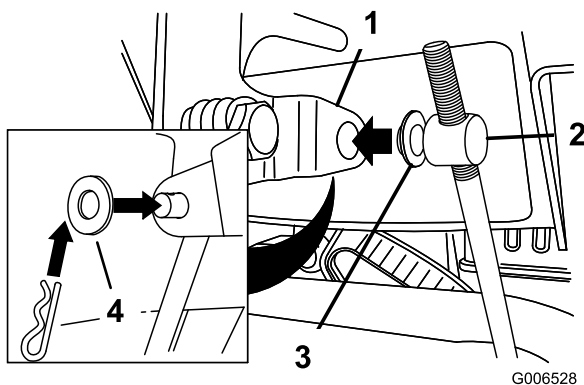

Figure 5
3. Place a flat washer on the trunnion (Figure 5).
6. Pull up on the speed control rod and insert the trunnion into the hole in the speed selector lever (Figure 5).
- B. Disconnect the trunnion from the speed selector lever (Figure 5).
- C. Turn the trunnion downward (clockwise) on the speed control rod (Figure 5).
- D. Connect the trunnion to the speed selector lever (Figure 5).